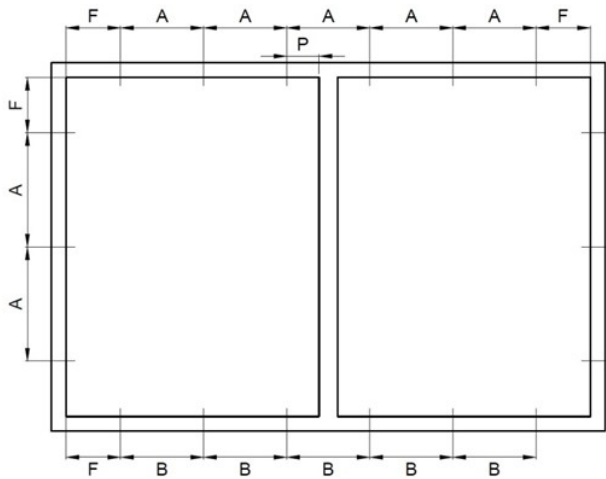

Figure 24. Location of the installation anchors of a fire safety window
5. The maximum distance between the anchors is 500 mm. (See Figure 24 Location of the installation anchors of a fire safety window)